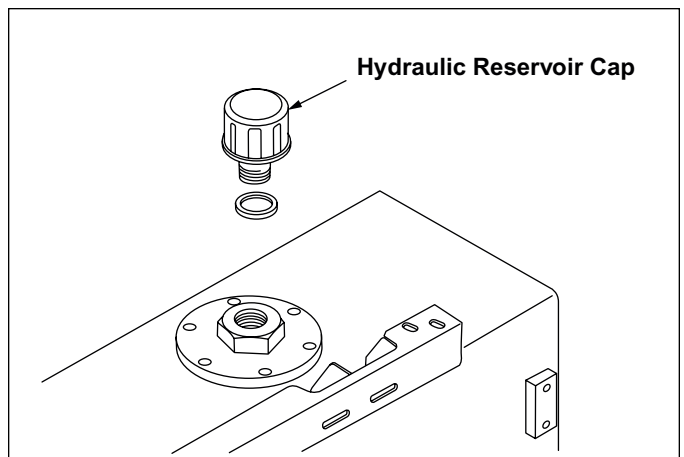

Figure 4-14. Hydraulic Oil Reservoir Cap
6. Slowly open the cap to relieve pressure (Figure 4-14).
4. Slowly open the cap to relieve pressure (Figure 4-14). Remove cap and clean strainer of any debris.